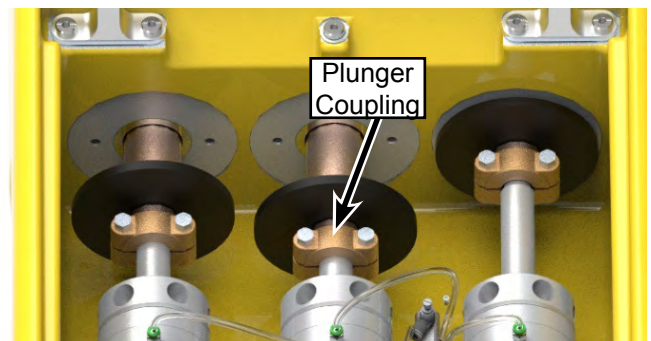

Figure 146: Remove Plunger Couplings
2. Open the rod box cover and remove the two capscrews that secure the plunger coupling to the plunger and remove the coupling. (Figure 146).